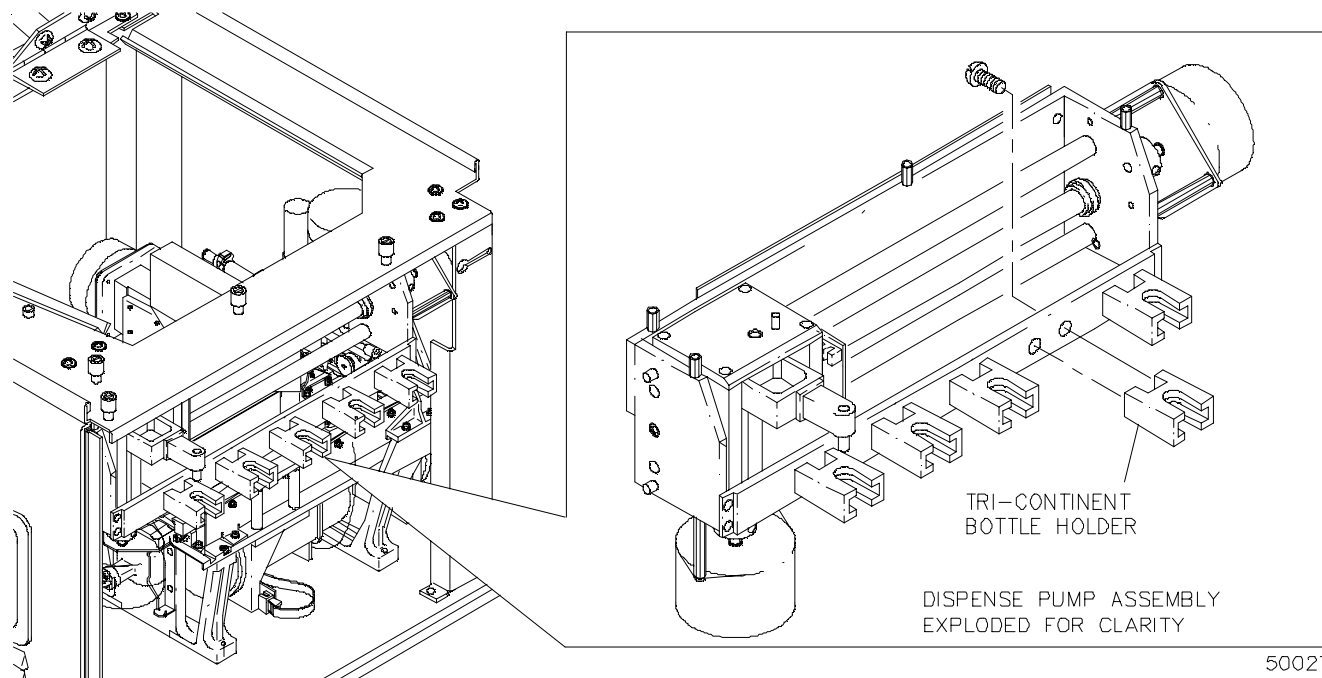

Figure 4-27. Tri-Continent Bottle Holder
5. Remove Tri-Continent Bottle Holder mounting hardware from two places (**Figure 4-27**).